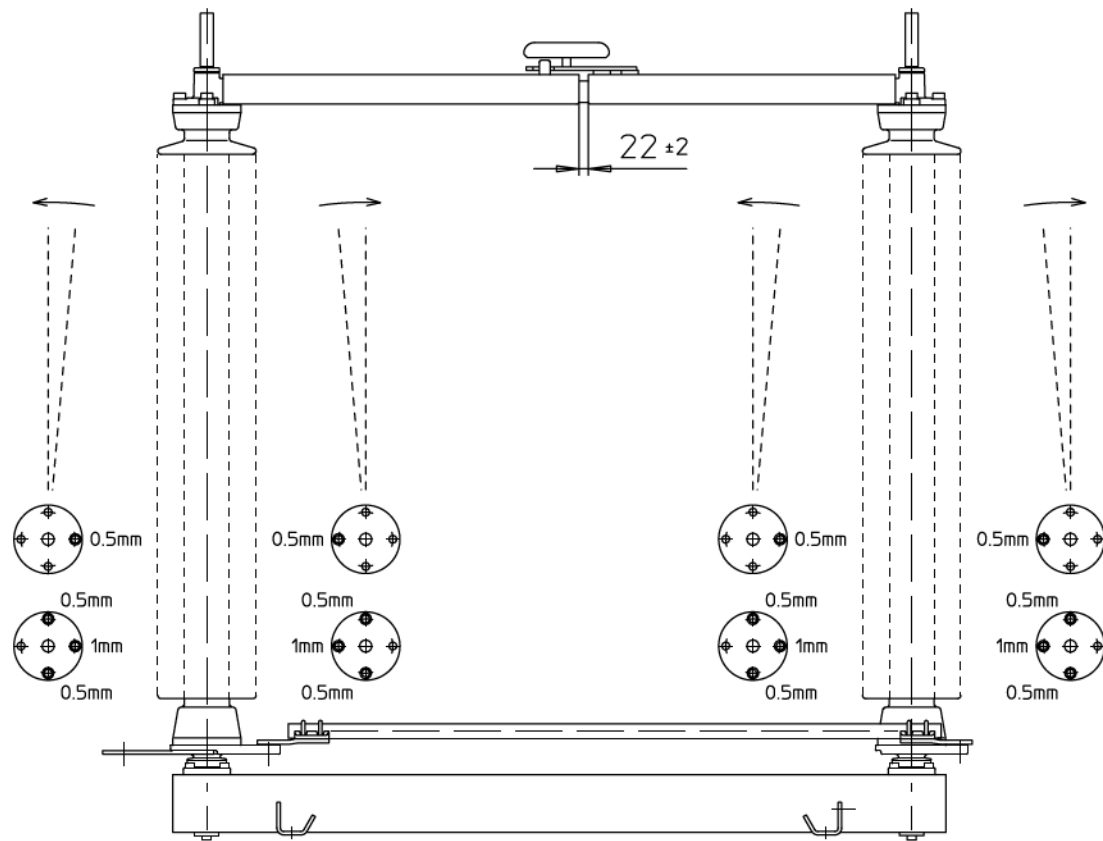

Figure 5
4. Check the distance between the blades as shown in Figure 5. This distance must be $22\text{mm} \pm 2\text{mm}$. If necessary adjust by loosening the insulator fixing bolts at the turntable and insert an appropriate filling shim as supplied with the disconnect. Each disconnecter crate contains a plastic bag with 30 shims of 0.5 mm and 10 shims of 1 mm.